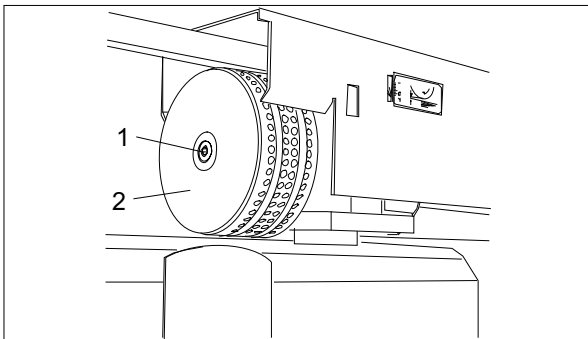

Fig. 22 Suction wheel
2. Loosen the Allen screw (Fig. 22/1).
3. Remove the suction wheel (Fig. 22/2).
5. Tighten the suction wheel with the Allen screw (Fig. 22/1).